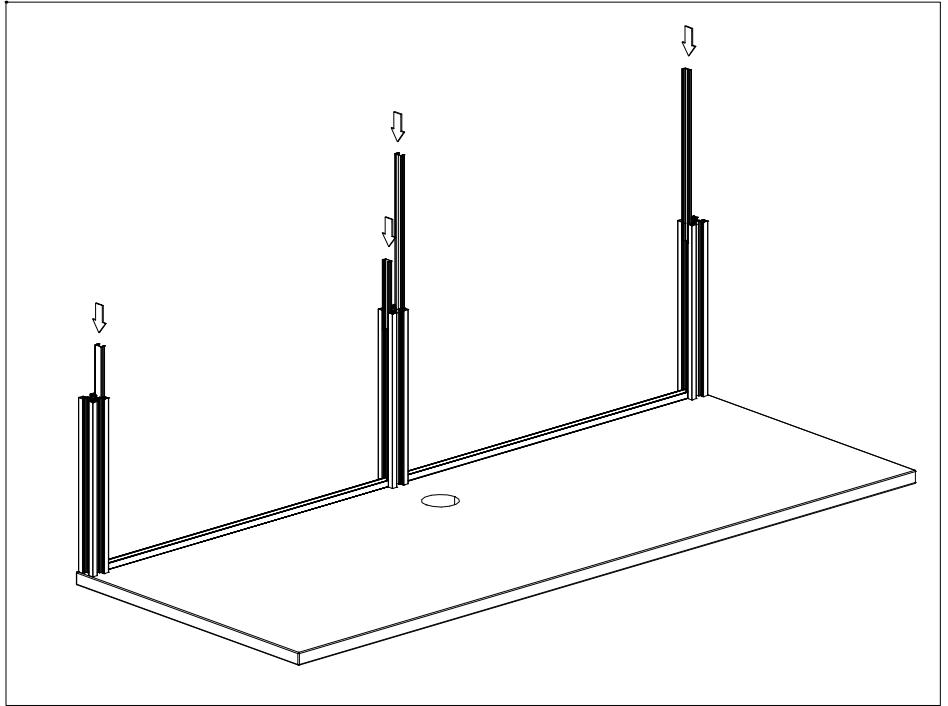

FIGURE 3
3. Insert the appropriate screen gasket into the screen post grooves, (Figure 3). Slide the gasket down the screen post until it bottoms out.